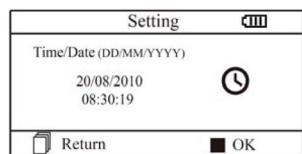

Figure 3-24 Time/date Setting
1. On system setting screen, select "Time/date" with Navigation Key, then press "OK" button to enter time and date setting screen (date format: dd/mm/yyyy), as shown in Figure 3-24.